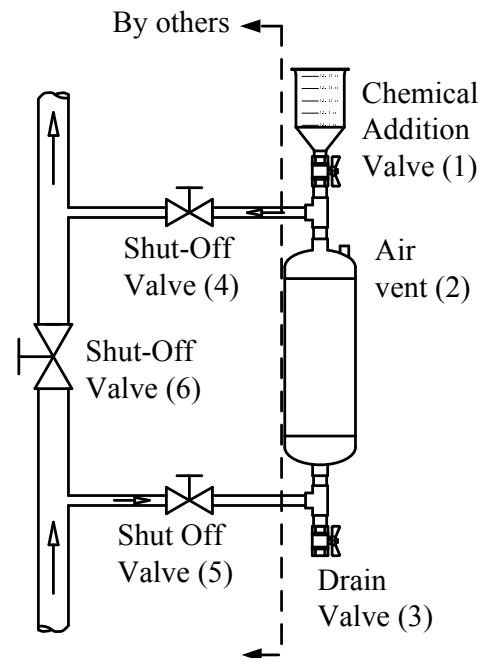

Figure 2: Installation method 2 – CBF installed in parallel with the system piping
Install the CBF in parallel with the system piping as shown in figure 2. Use shut off valves (4) and (5) to control the flow through the CBF and use shut off valve (6) to force flow through the CBF. Check that all connections have been properly tightened to avoid leaks.
Refer to Figure 2 when using installation method 2.